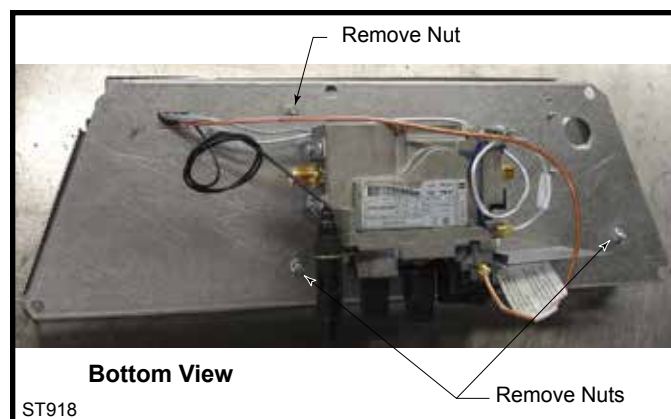

Figure 80 Remove three (3) nuts securing ember bed in place.
1. Remove three (3) 3/8" nuts on bottom side of burner pan. (Figure 80)
2. Carefully remove ember bed by tilting the right side up and lifting out toward the right side of the unit. (Figure 80)
2. Thread and tighten 3/8" nuts back onto pem studs on underneath side of control panel, reversing Step 1 shown in Figure 80.